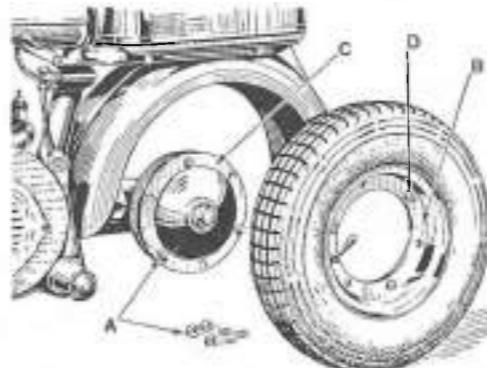
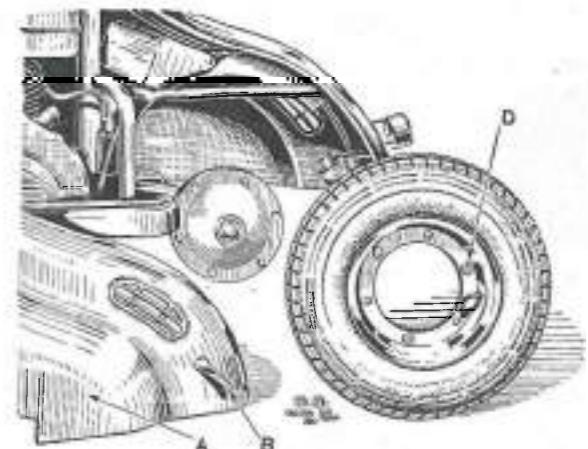

Fig. 8
Fig. 9
To remove the front wheel, on both models (fig. 7) first disconnect the brake control cable (A), then loosen the two cap nuts (B) fastening the wheel to the trailing links (C); place the washers under the nuts, located within the trailing links. To dismantle the rear wheel on the model d (fig. 8) loosen the three cap nuts (A) fixing the rim (B) to the hub (C); before dismantling the wheel on the model Id (fig. 9) remove the left side panel (A) loosening the fastener (B).